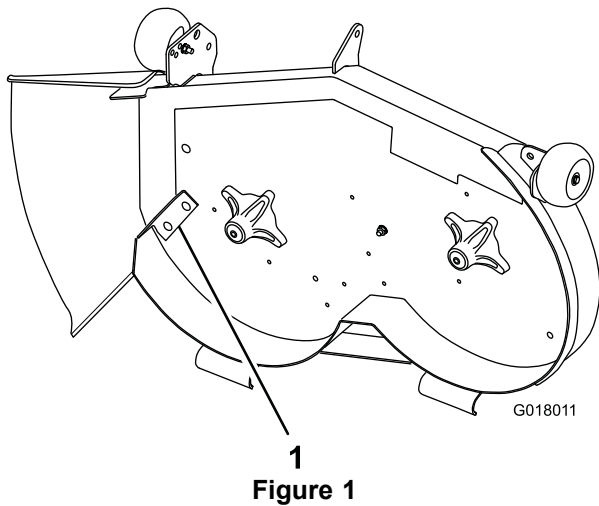

Figure 1
- Locate the cutoff baffle at the side-discharge opening on the mower deck (Figure 1).